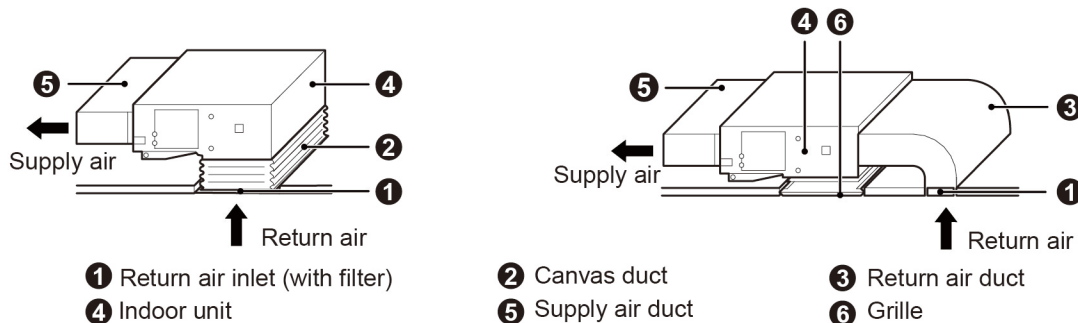

Fig.4.4.6
- (2) If the bottom return air is desired, just change the place of the rectangular flange and the return air cover plate.
- (3) Connect one end of the return air duct to the return air outlet of the unit by rivets and the other to the return air louver. For the sake of the convenience to freely adjust the height, a cutting of canvas duct will be helpful, which can be reinforced and folded by 8# iron wire.
- (4) More noise is likely to be produced in the bottom return air mode than the rear return air mode, so it is suggestive to install a silencer and a static pressure box to minimize the noise.
- (5) The installation method can be chosen with considering the conditions of the building and maintenance etc., as shown in Fig.4.4.6.